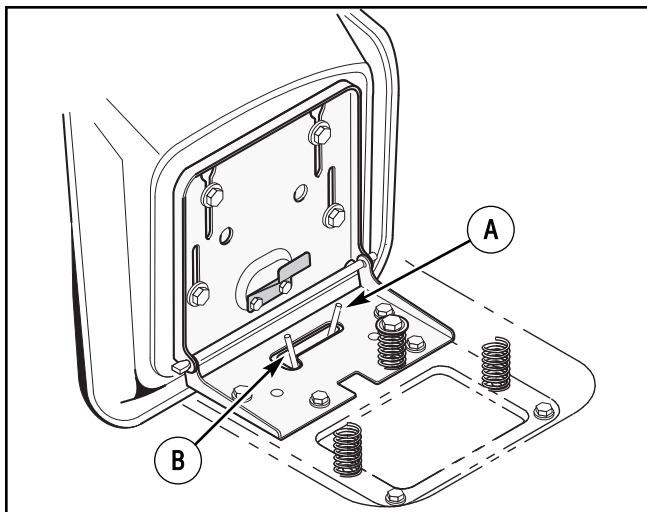

Figure 13: Automatic drive disconnect
1. The **automatic drive disconnect** must be in the **DRIVE** position (Figure 13).
3. Move and latch the **automatic drive disconnect** in the PUSH position (Figure 13). The transmission is now released and the unit can be pushed.